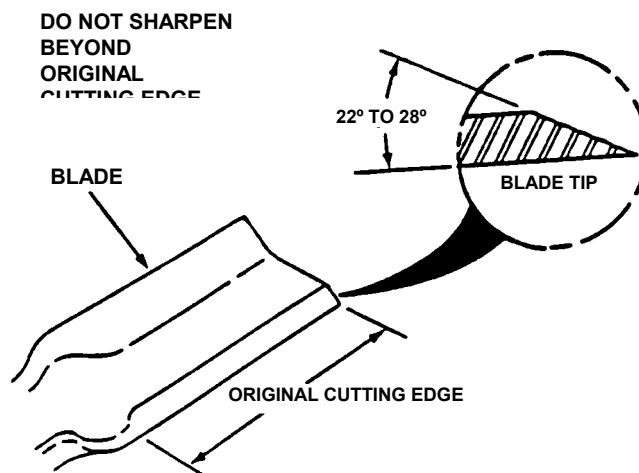

FIGURE 5.7
3. If blade is in good condition, sharpen at 22 to 28 degrees. **DO NOT** sharpen beyond original cutting edge. See Figure 5.7.